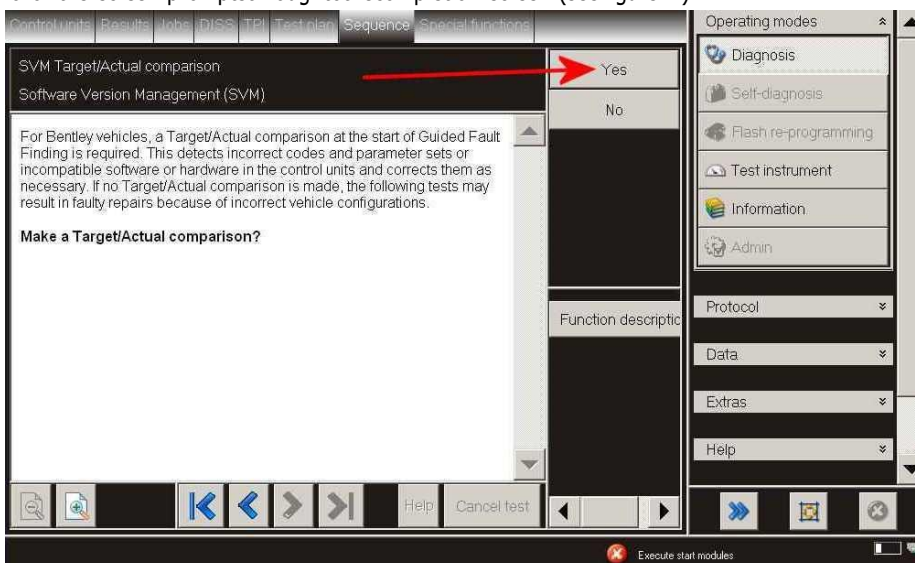

Figure 13
23. Select Guided fault finding to check and clear the vehicle of any fault codes generated as a result of performing this campaign. NOTE: When requested to Make a Target/Actual comparison this action should be performed, select YES. (see Figure 13)